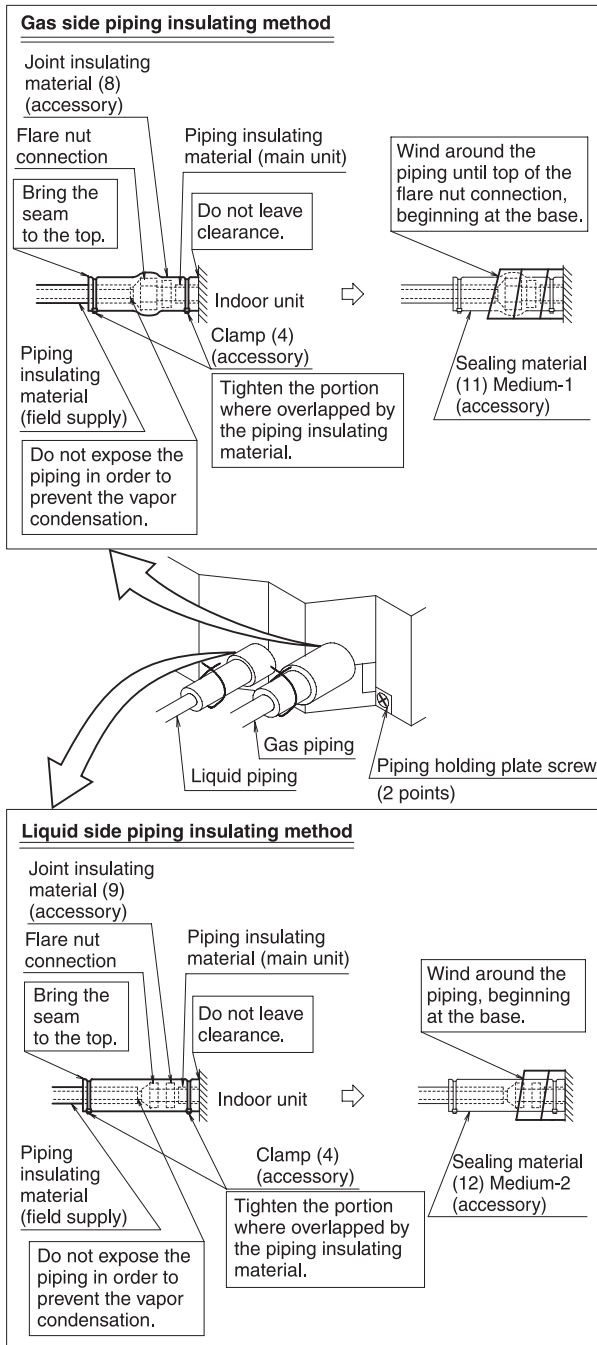

Fig. 12
- After leak test, referring to Fig. 12, insulate both the gas and liquid piping connection with the attached joint insulating material (8) and (9) to prevent the pipings from getting exposed. Then, tighten the both ends of insulating material with the clamp (4).
- Wrap the sealing material (Medium-1, 2) (11) (12) around the joint insulating material (8) and (9) (flare nut section), both the gas and liquid piping.
- Make sure to bring the seam of joint insulating material (8) and (9) to the top.
After all the brazing works are finished, carry out flare connection with the indoor unit. (**Refer to Fig. 12**)